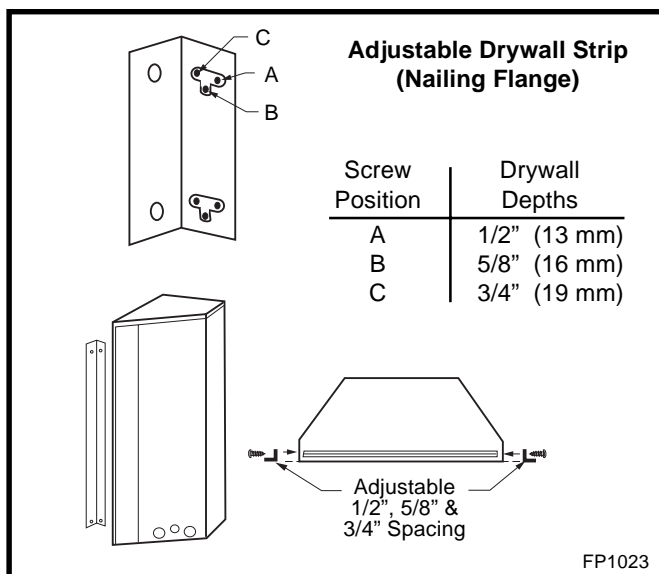

Fig. 5 Adjustable drywall strip (nailing flanges).
4. Attach the fireplace to the frame using the adjustable frame drywall strips (located behind the access door for shipping). Preset the depth to suit the facing material of the wall. The strips are adjustable to 1/2" (13 mm), 5/8" (16 mm), or 3/4" (19 mm). (Fig. 5)